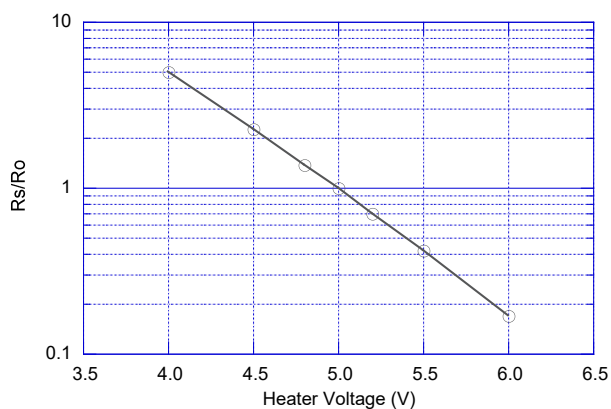

Fig. 8 - Heater voltage dependency in clean air
Figure 8 shows the change of the sensor resistance ratio in clean air according to variations in the heater voltage (VH). The Y-axis shows the ratio of sensor resistance in clean air at various heater voltages (Rs) compared to sensor resistance in clean air at VH=5.0V (Ro).